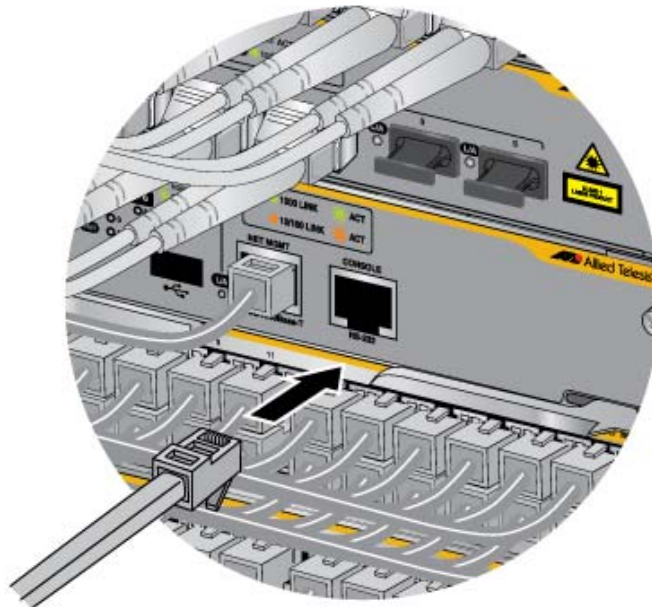

Figure 130. Connecting the Management Cable to the Console RS-232 Port
1. Connect the RJ-45 end of the management card included with the AT-SBx81CFC400 Controller Fabric Card to the Console RS-232 port on the front panel of the AT-SBx81CFC400 Control Card, as shown in Figure 130. If the chassis has two controller cards, you must connect the cable to the Console RS-232 port on the active master card. To determine which card is the active master controller card, examine the CFC LEDs. The LEDs are green on the active master controller card and amber on the standby master controller card.